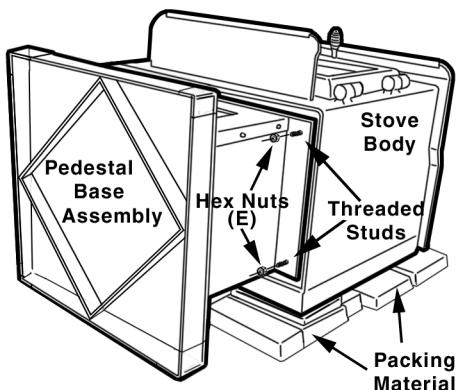

**Figure 5 – Insert Ash Drawer Support.**
4. Attach the pedestal front frame to the sides. The pedestal front should go **over** (not inside of) the side panels. Use three (3) machine screws, lockwashers & hex nuts (provided in the hardware pack) on each side to attach both pedestal sides (#31) to the pedestal front (#32).
5. Position ash drawer support into assembled pedestal (Figure 5) and secure from rear with two (2) machine screws, lock washers and hex nuts. Tighten all pedestal hardware.